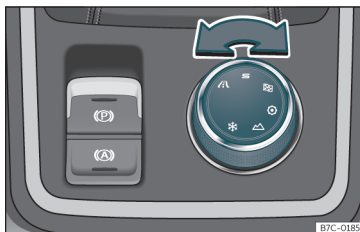

Fig. 225 Centre console: Driving Experience button.
- Turn the Driving Experience button until the required profile lights up on the Easy Connect system display as well as on the Driving Experience button »» **Fig. 225**.